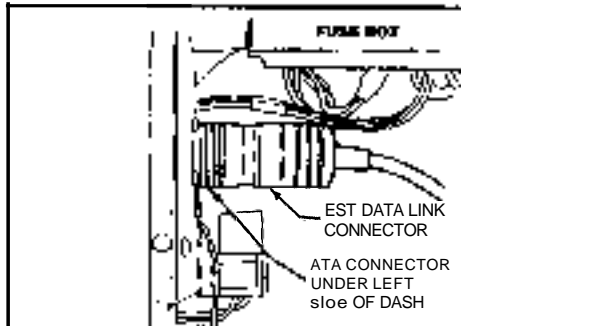

Figure 2.3-19. - ATA Connector Location
1. Connect the Electronic Service Tool (EST) to the American Trucking Association (ATA) data link connector. (Figure 2.3-19.)